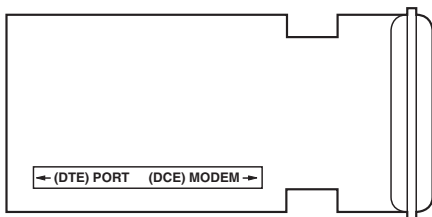

Fig. 3-8. RS-449 DTE, RS-232 DCE (V.36 DTE, V.24 DCE).
3. Turn the socket around and replace it so that the DCE faces the RS-232 connector and the DTE faces the RS-449 device (see Figure 3-8). Make sure that the pins are aligned with the socket.